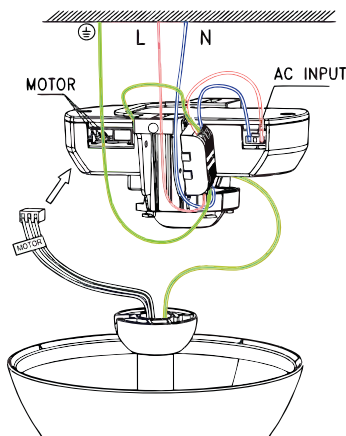

Fig 7.1
Slide receiver into position in the hanging bracket ensuring the AC input connector from the hanging bracket is aligned with the AC port on the receiver. Refer Fig 7.1 and 7.2.
- A.** For fan models without light, plug cable marked 'MOTOR' into remote control box. See Fig 7.1.